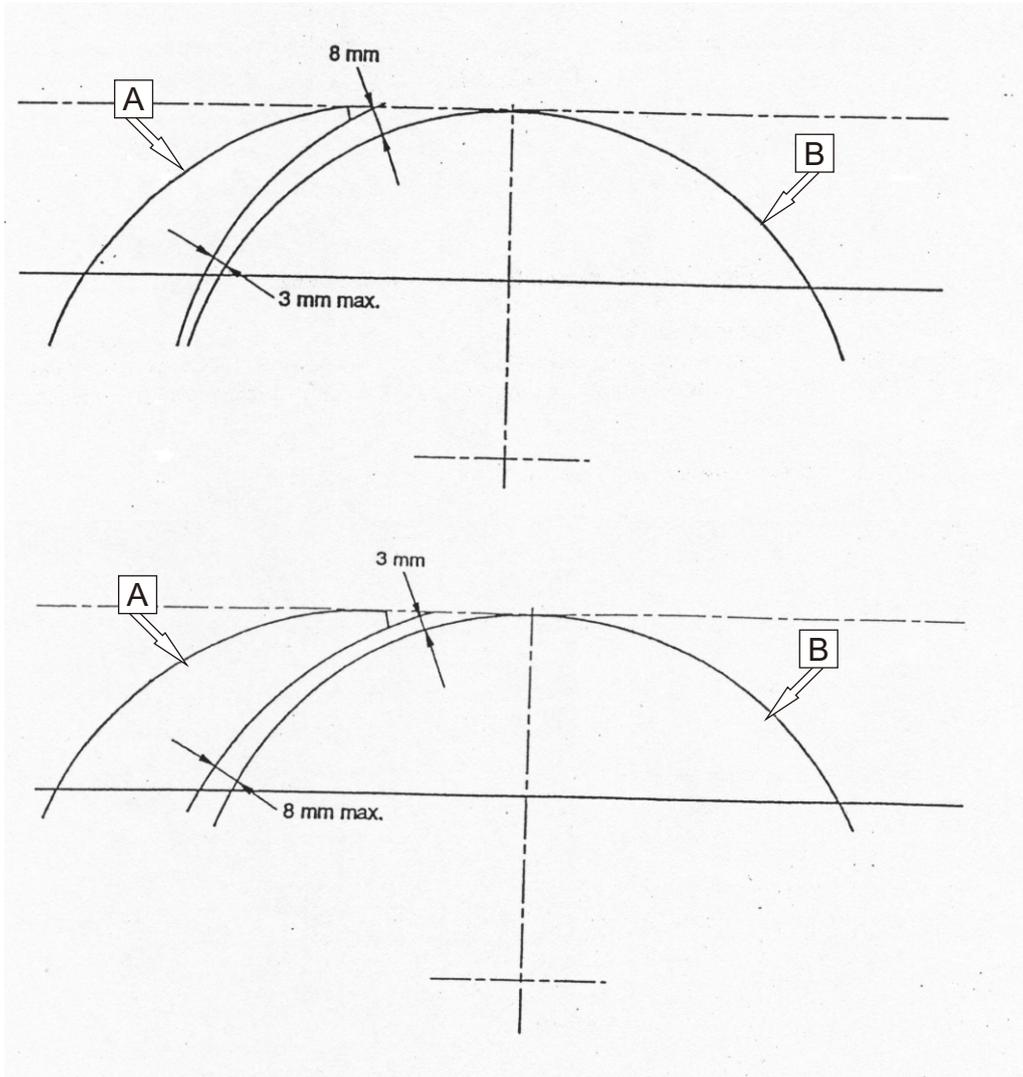

Fig.3-2-4
3. The highest point of the riving knife can't be 3mm higher than the highest saw tooth in the wood. Gap between the saw and knife must be the min. 3mm and the max. 8mm crossing the saw (as Fig. 3-2-4).